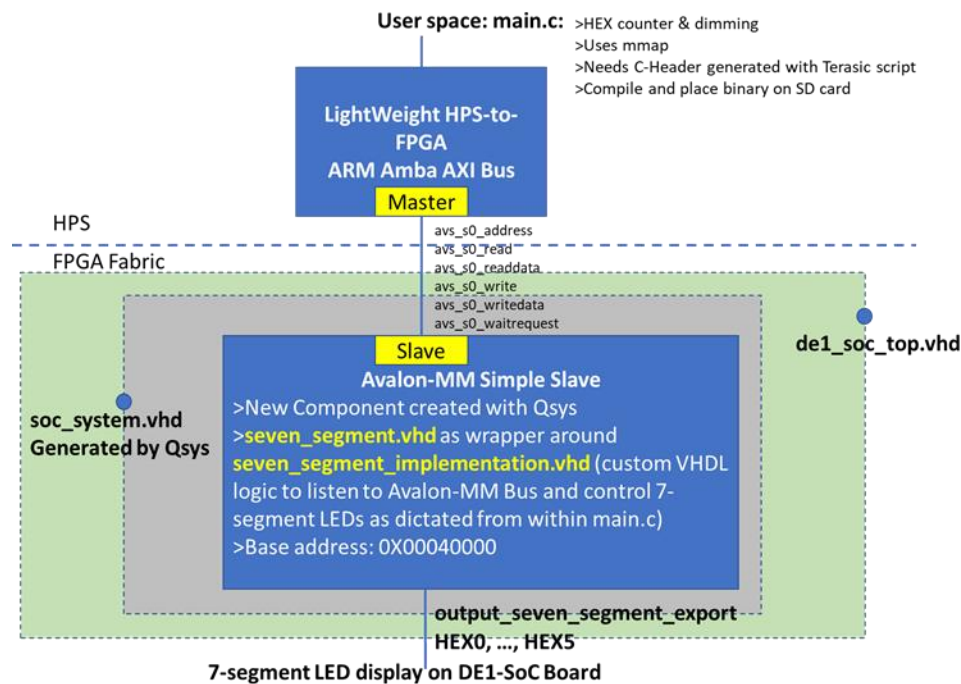

Figure 1: Visual representation to aid in explaining Example 5.
***Summary of the example:** This is a system that controls from the HPS side (running Linux off the microSD card) the 7-segment LED displays from the FPGA side of the FPGA SoC device on the DE1-SoC board. The functionality is a simple HEX counter that is also dimmed to a desired level. See Figure 1 below for more details.*